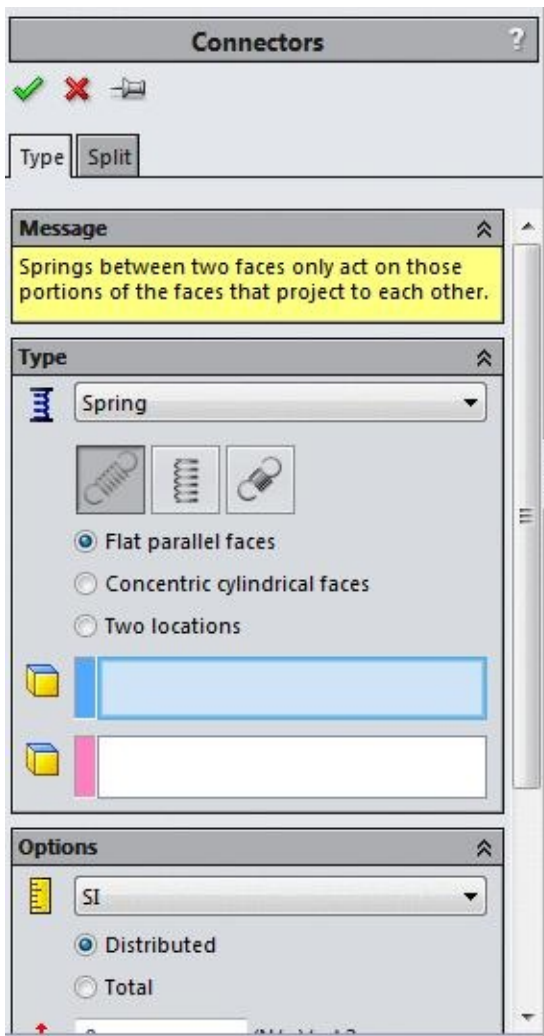

Figure-70. Connectors PropertyManager with Spring option
- Click on the **Spring** button from the **Connections Advisor** drop-down. The **Spring PropertyManager** will display as shown in Figure-70.